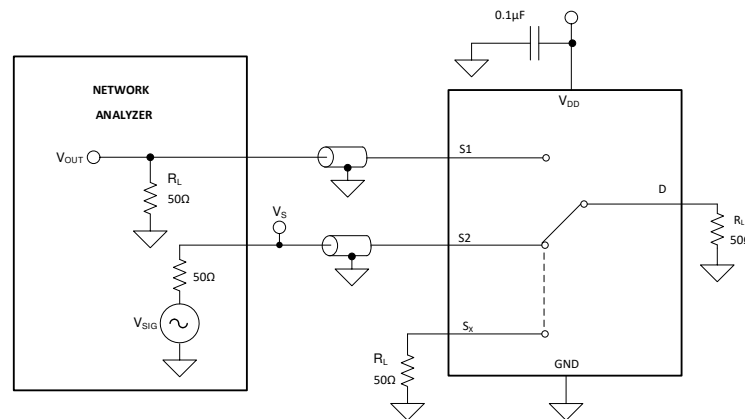

**Figure 8-8. Off Isolation Measurement Setup**
Off isolation is defined as the ratio of the signal at the drain pin (D) of the device when a signal is applied to the source pin (Sx) of an off-channel. Figure 8-8 shows the setup used to measure, and the equation to compute off isolation.